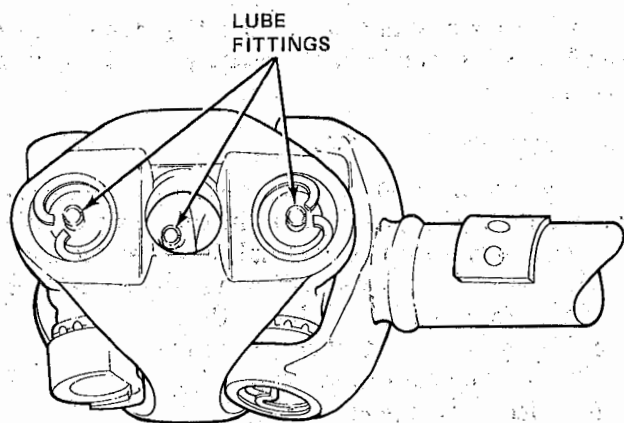

Fig. B-20 Double Cardan Joint
- (1) Raise vehicle on frame-contact type hoist (front wheels must be free to rotate).
- (2) Clean dirt from around double cardan joint (fig. B-20).
- (3) Lubricate joint using needle-type Lubrication Adapter J-25512-2.